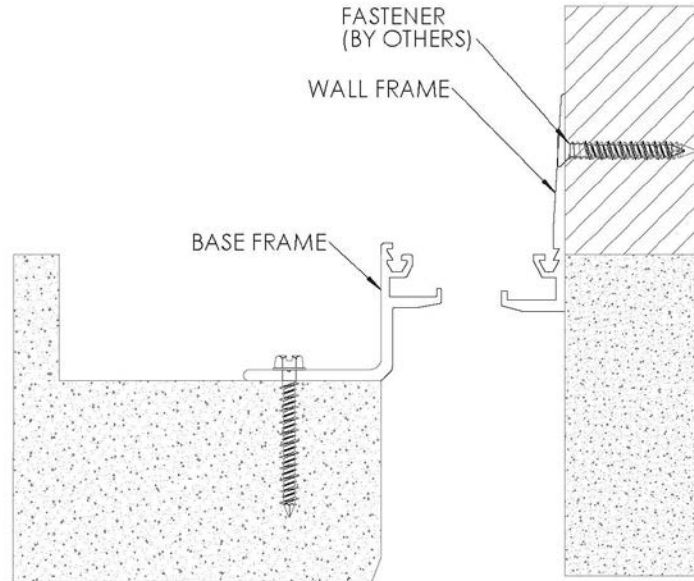

FIGURE 3
3. Position the wall frame into position, making sure the top channel is level with the top channel of the base frame. Attach the wall frame to the wall with appropriate fasteners (by others) for the wall type 18" o.c. **See Figure 3**